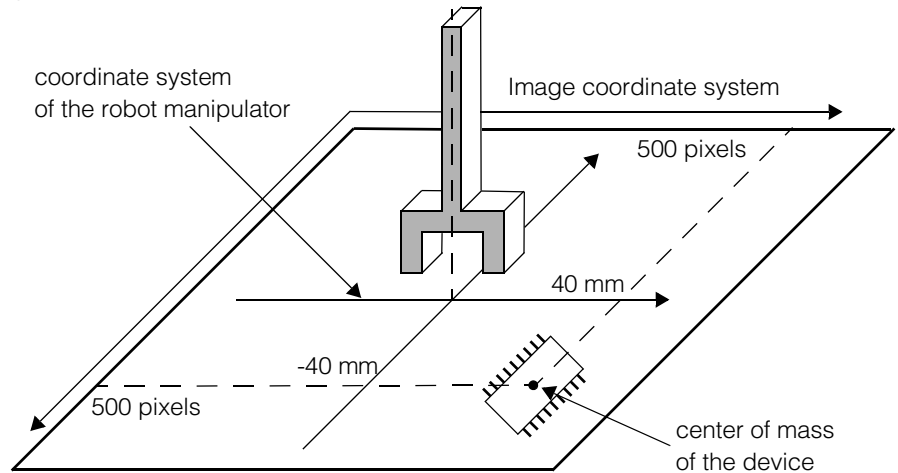

Figure 103. Mapping the center of mass of the device from image coordinate system to robot coordinate system
A typical problem in machine vision is the one of mapping image features between coordinate frames. Suppose, for example, that the task of your machine vision application is to inform a robot manipulator of the position of a device as illustrated in Figure 103.
To accomplish this task the camera acquires an image of the platform and the machine vision tools locate the center of mass (CM) of the device. Before passing the information to the robot manipulator the application must solve one more problem: the CM coordinates are expressed in pixels in the coordinate frame of the machine vision application (the image coordinate system in the figure) while the robot manipulator has a coordinate system which is calibrated in millimeters. Furthermore, the vertical axis of the manipulator is not coincident with the vertical axis of the image coordinate system. In Figure 103 the image coordinates of CM are (500, 500), while its manipulator coordinates are (40, -40). In order to describe the position of the device in units meaningful to the manipulator the application must transform the CM coordinates from the image coordinate system to the coordinate system of the robot manipulator. Such mapping is performed by a 2D transformation.